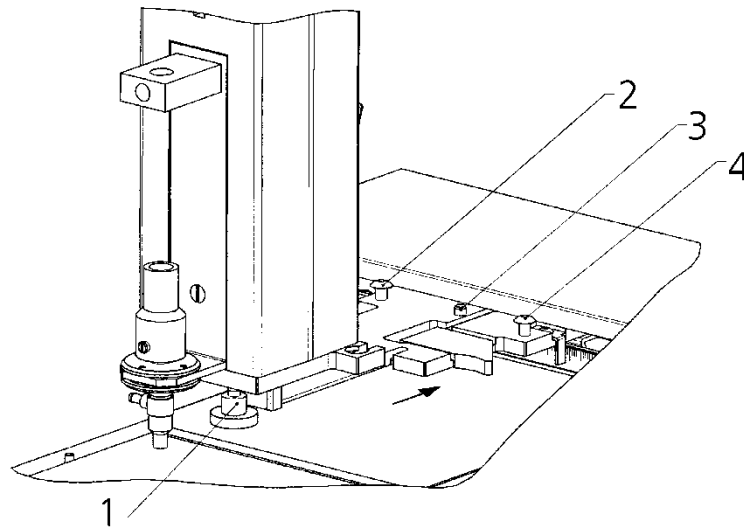
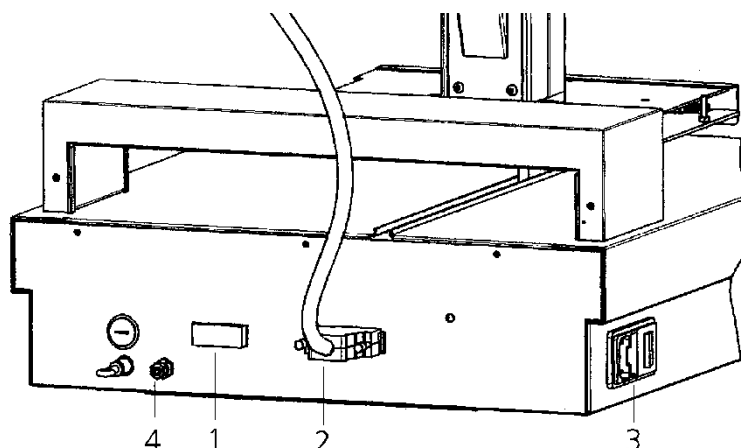

Fig. 2: Mounting the dosage turret
Fig. 3: Connections. 1 = RS232 Interface, 2 = dosage turret connection, 3 = Power switch and mains connection with fuse box, 4 = gas connection
- ✓ Remove the dosage turret carefully from the package and place it on the turret support (fig. 2).
- ✓ Make sure that the dosage turret has been properly positioned on the fixation (3) before tightening the two turret screws (2 and 4) by means of the screwdriver supplied.
- ✓ Tighten screw (1) by hand.
- ☛ *Connect the turret cable with connector (2) as shown in fig. 3.*
✓ Connect the supplied pressure tubing to the gas inlet nipple (fig. 3, item 4) on the backside of the instrument.